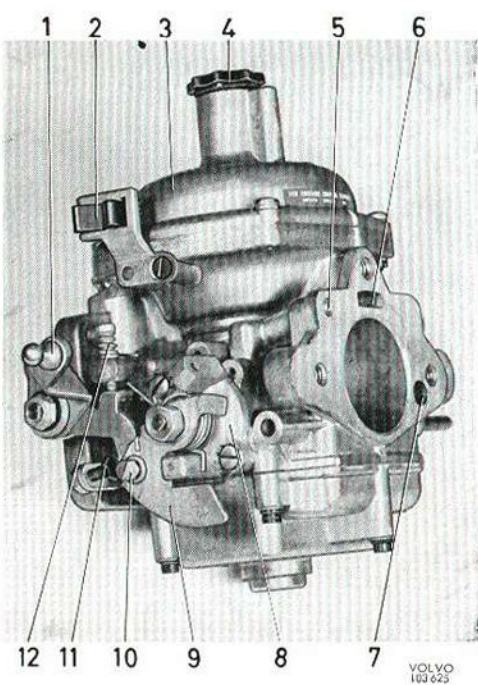
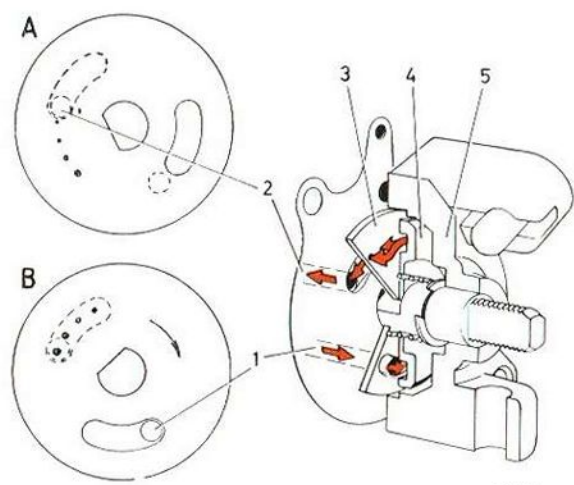

Fig. 2-69. Stromberg-carburetor, left side, B 20 A
Fig. 2-76. Cold-start device
The carburetor for the B 20 A engine is shown in Figs. 2-69 and 2-70. It has been designed with a view to obtaining cleaner exhaust gases by means of a gas evaporative control system.
The carburetor is fitted with a cold start device (8, Fig. 2-69) in order to provide the engine with extra fuel for cold starting.
To facilitate starting during cold weather, the carburetor is provided with a cold start device (Figs. 2-76 and 2-77).
The cold start device consists of a choke lever (3, Fig. 2-76) which is provided with four calibrated holes and an elongated opening as well as a channeled disc (4) mounted on a spindle which is operated by the choke control. On the same spindle, outside the housing (5), there is a cam disc (9, Fig. 2-69) with connection for the choke control pull wire. When the cold start device is engaged, the valve disc turns and this links up the channel (1, Fig. 2-76) from the floatchamber via one or several of the calibrated holes to the channel on the other side of the valve disc and further through the drilling in the channel (2), which terminates in the venturi between the vacuum plunger and choke flap. By means of this link-up the engine receives extra fuel (richer mixture) to facilitate cold starting. At the same time, a little extra air is obtained by means of the choke device. When the choke control is pushed in, the valve disc turns and closes the inlet to the channel. At the same time as the cam disc is operated, the throttle flap opening is also influenced in such a way that turning the cam disc opens the throttle through the fast idle stop screw (11, Fig. 2-69) and the lever, before any of the calibrated holes open the connection to the fuel drilling. With this arrangement, the idling speed can, if necessary, be raised by the driver of the vehicle during the warming-up period of the engine.